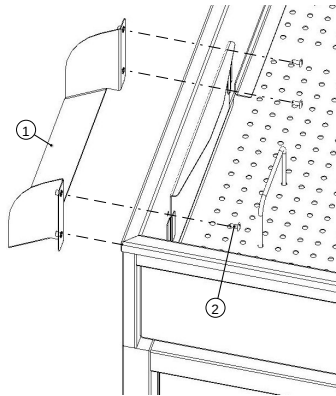

Figure 4: Popcorn chute
8. Attach the popcorn chutes (1), using M5 Button head screws (2), see Fig.4.